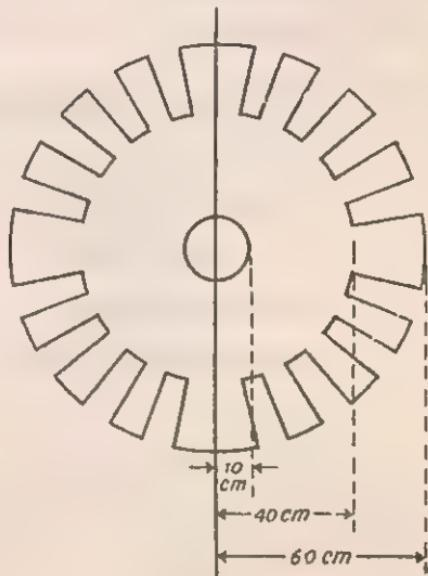

Fig. 26
19. Determine the stresses due to centrifugal force in a steel rotor with an outer radius of 60 cm and with the radius of the inner hole equal to 10 cm. The outer portion of the rotor is cut by slots 20 cm deep for the windings (Fig. 26). The rotor revolves at 1,800 r.p.m. The weight of the windings in the slots is the same as that of the material removed.